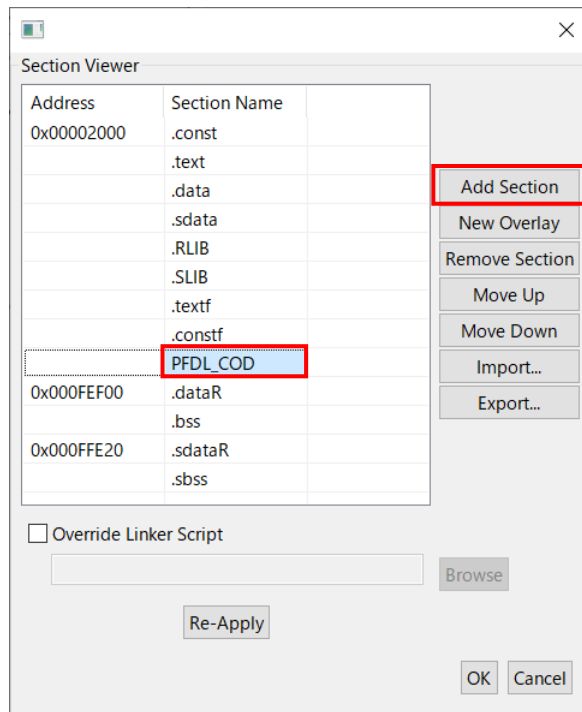

Figure 8-4. Example of Section Settings for the Data Flash Library when Using e² studio (ROM Area)
- Setting of the section items on e² studio inputs in the “Properties” window. Select “C/C++ Build” [Setting] - “Linker” [Section]. And set section items on the displayed screen. Remove a check mark to [Layout sections automatically(-auto_section_layout)]. Press the “...” button of the right-hand side which sections are displaying, and a “Section Viewer” screen is displayed and add the sections necessary for the data flash library to the ROM area (Figure 8-4).